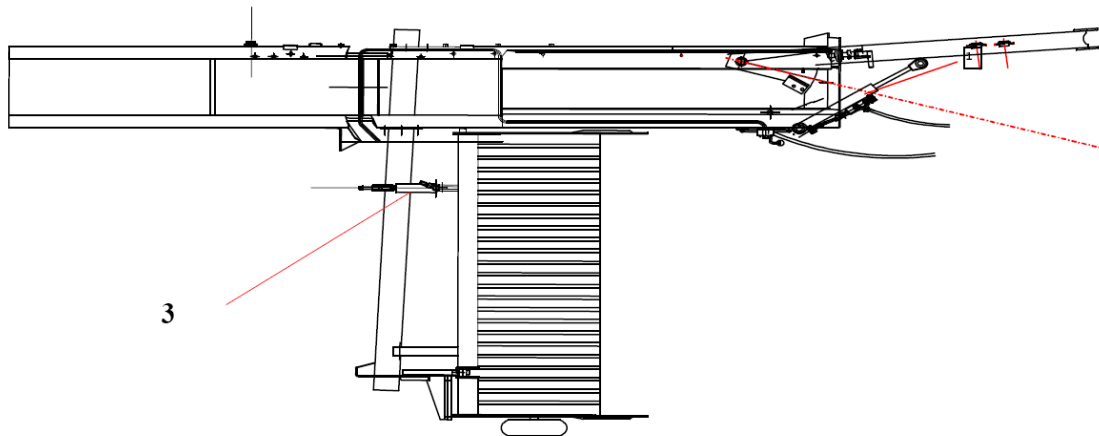
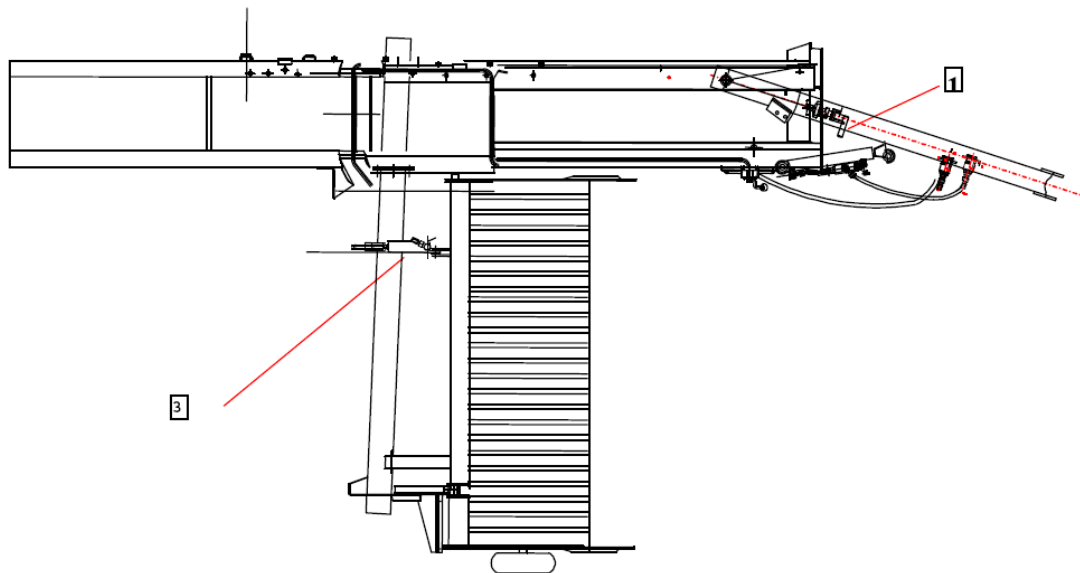

Fig. 12 Overview of the hydraulic system in PK 4011 (operation position)
Fig. 13 Overview of the hydraulic system in PK 4011 (transport position)
**During twine threading, the protectione lever S must be set in the position STOP (Fig.12 and Fig.13)**